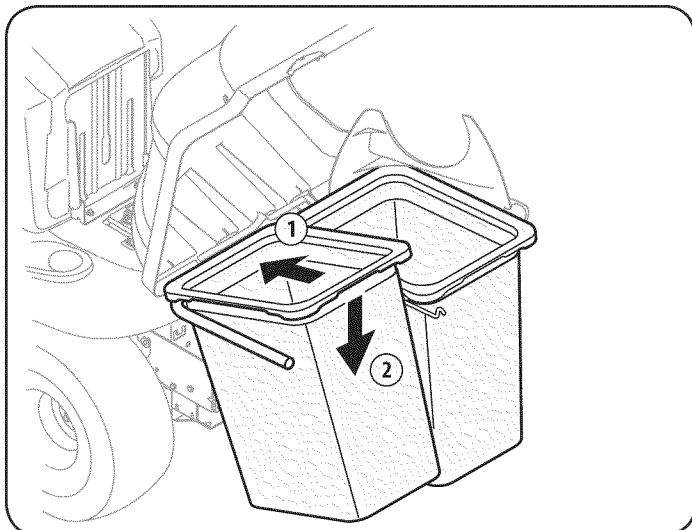

Figure 15
- Install both grass bags onto the bag support assembly by inserting the front edge in first (1), as seen in Figure 15, and setting the back edge down (2) until it fits into the assembly.